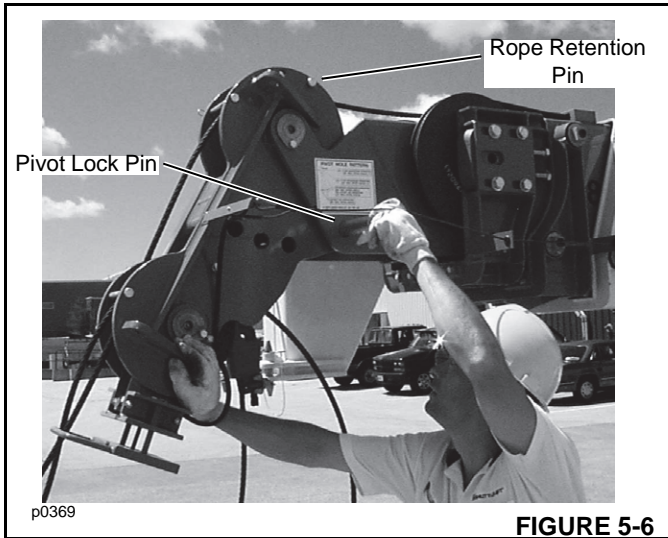

FIGURE 5-6
3. Remove the retaining clip from the rope retention pin, remove the rope retention pin from the top of the boom head (Figure 5-6).
6. Position the pin hole in the boom head to align up with hole or the desired angle. Insert the pivot lock pin (Figure 5-6) through the holes and install the lynch pin.
3. Remove the retaining clip and rope retention pin from the top of the boom head (Figure 5-6).
8. Install the rope retention pin and retaining clip into the top of the boom head (Figure 5-6). Check that the wire rope is not contacting retention pin at the top of the boom head.